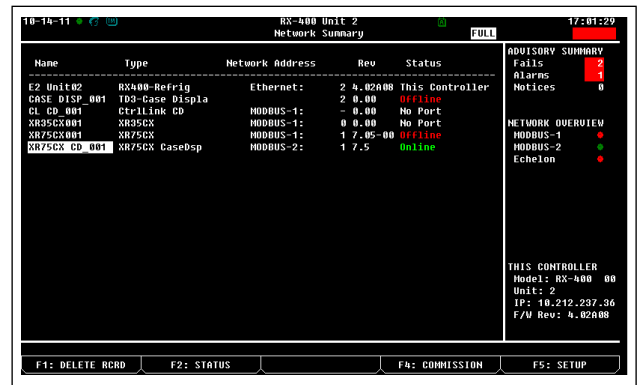

Figure 16-6 - Network Summary Screen
8. When finished, press  to return to the **Network Setup** menu, then press  - **Network Summary** (Figure 16-6). Locate the devices you set up, and look at each device's status in the **Status** field. You will see one of the following messages: